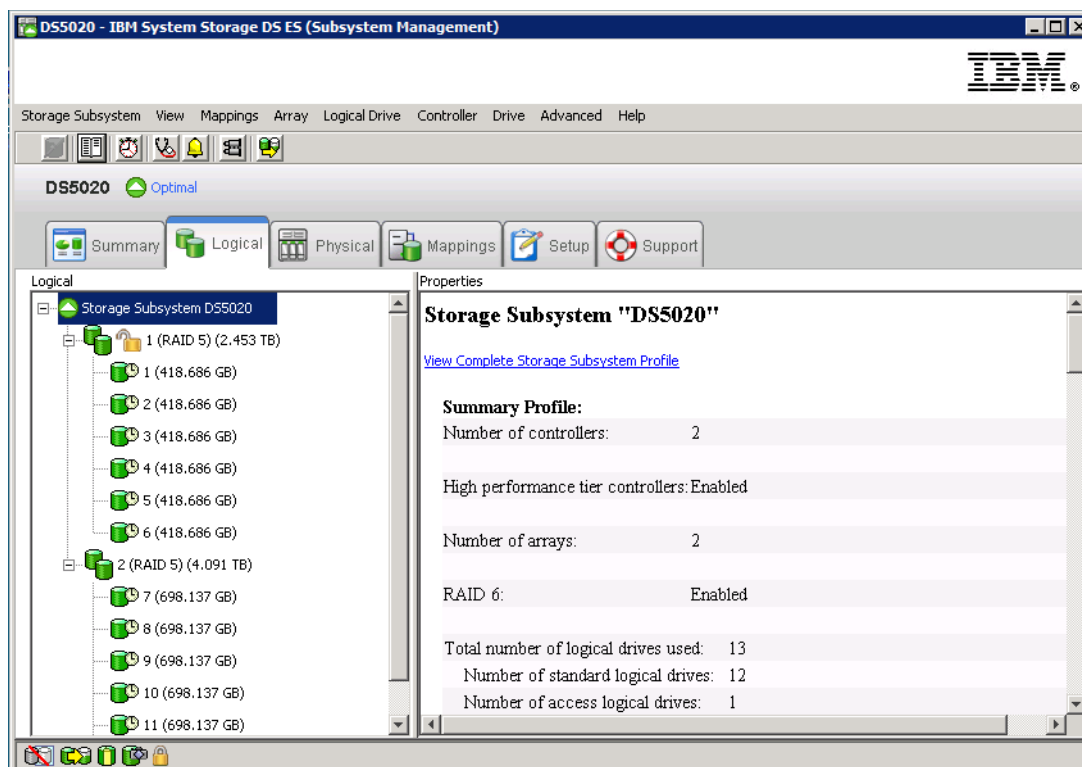

Figure 4-48 Automatic configuration results
5. After completion, the Storage Manager shows the arrays, logical drives, and hot spares created automatically based on your input, as shown in Figure 4-48.